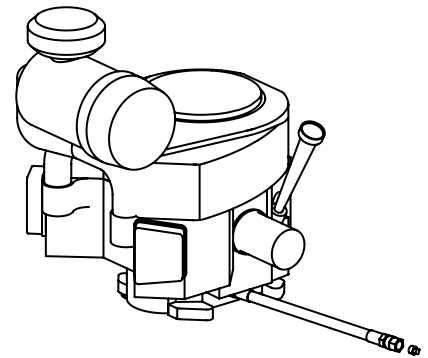

Figure 37
2. Locate the oil drain hose on the engine. See Figure 37.
5. While holding the free end of the oil drain hose over the oil collection container, unscrew the square-head hose plug from the end of the hose. See Figure 37. Drain the engine oil into the collection container.